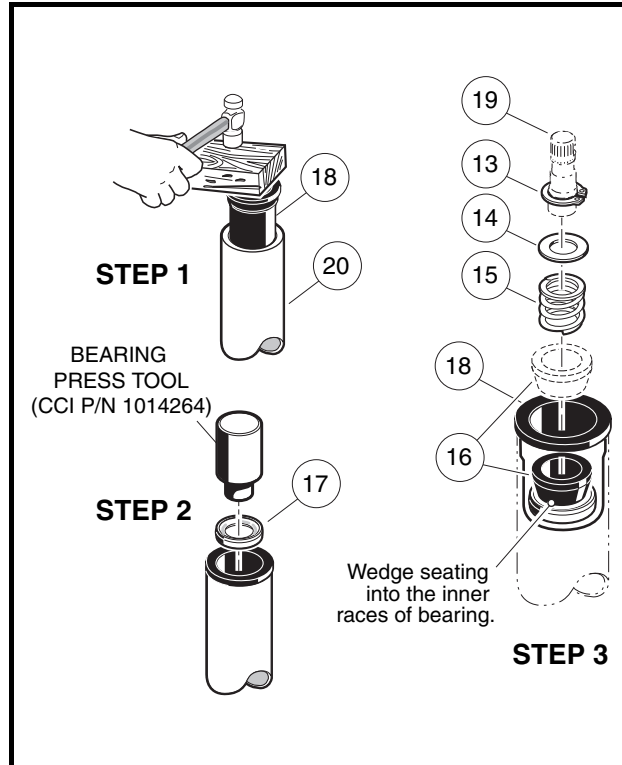

Figure 7-5 Steering Shaft – Bottom End
1. Insert bearing seat (18) into both ends of steering tube (20). Place a block of wood on bearing seat and tap lightly on block until bearing seat (18) is fully seated in steering tube (20) (**Figure 7-5, Page 7-6**).
2. Press the bearing (17) all the way into the bearing seat (18) using a steering column bearing press tool (CC P/N 1014264) or a metal tube approximately six inches (15.2 cm) long with a maximum outer diameter of 1-3/16 inches (3.3 cm) and a minimum inside diameter of 7/8 inch (2.2 cm). Be sure the bearing is installed in the bearing seat as shown (**Figure 7-5, Page 7-6**) so the wedge (16) will ride against the inner race of the bearing.
3. Install the wedge (16), spring (15), washer (14), and snap ring (13) onto the bottom end of the steering shaft (19) (**Figure 7-5, Page 7-6**).